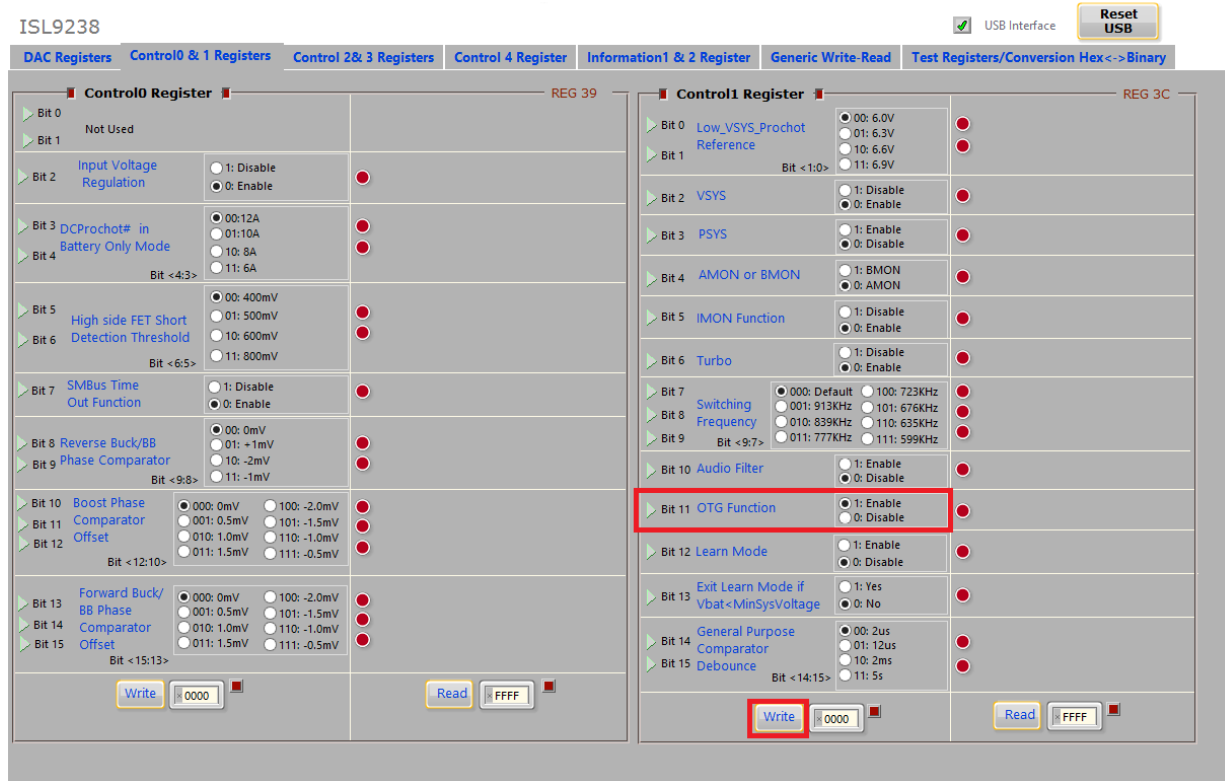

FIGURE 5. OTG FUNCTION ENABLE
5. Select the **Control0 & 1 Registers** tab, enable the OTG function in **Control1 Register**, and click the **Write** button, as shown in Figure 5 on page 5.